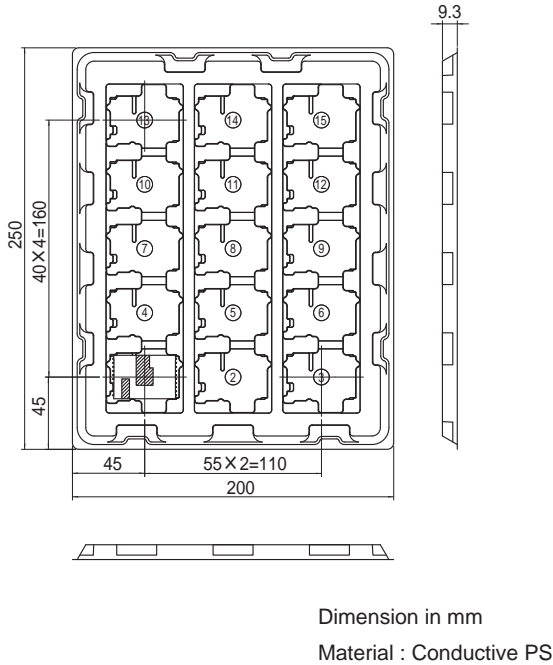

Fig.9.1 Delivery package information(SFS10/SFS15/SFS20)
- These are packed in a tray (Fig.9.1, 9.2).